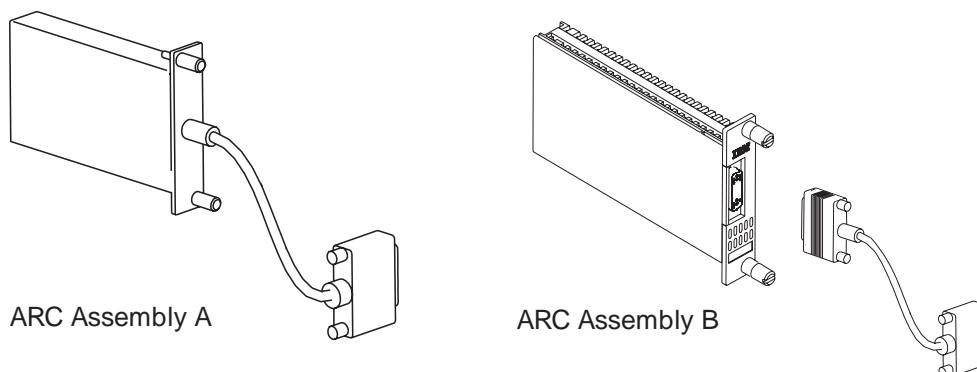

Figure 4-8. ARC Assembly A and B
1. The ARC can be part of the cable (assembly A) or separate from the cable (assembly B). See Figure 4-8.